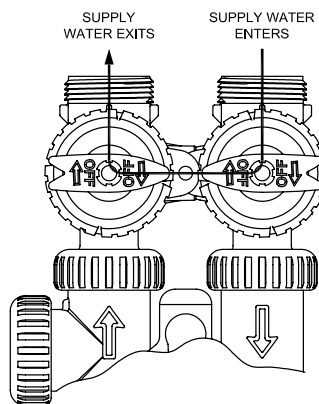
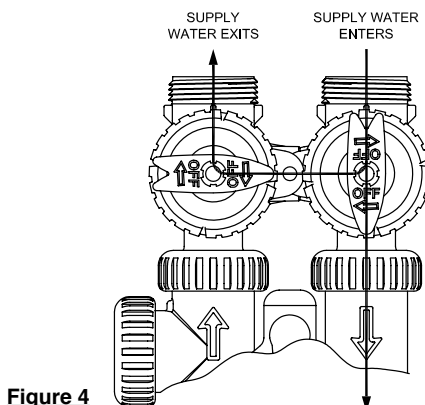

Figure 3
Figure 4
2. Place the bypass valve in the bypass position. (See figure 3 page 5) Turn on the main water supply. Open a cold soft water faucet to flush the piping of any air and/or foreign material. Run until the water is clear.
6. Push REGEN button and hold it down for 3 seconds. The system will advance to the “First” position. (Note: Depending on how the system is programmed it could read backwash, rinse, brine or fill). Pushing REGEN button until “Rinse” shows in the left upper hand corner of display. Slowly place the bypass into the “diagnostic mode” (see fig 4, page 5). Run water to the drain until it runs clear. Return the bypass valve to the by-pass position (fig 3, page 5). Push REGEN button until unit is back to softening mode.